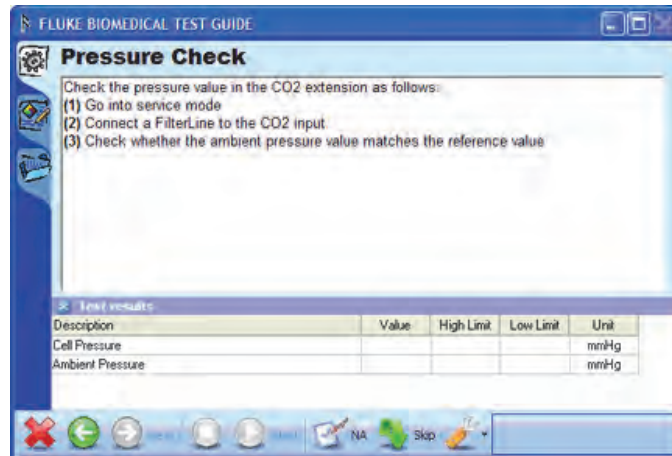

Figure 3-39. Preview of Numerical List
- Click the **Abort** button (X) to return to the test template. When asked if you want to abort the test template, you must click the **Yes** button. The Test Guide for the numerical list will be displayed as shown in Figure 3-39.